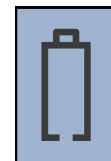

Fig.1A
- Remember, only charge your Indicator when the battery symbol is shown on the display, (Fig.1A) see page 13.
1. Turn on your tool, check the upper left of the display to see if the battery symbol is showing. If the battery symbol is showing (Fig.1A) then go to the “Rechargeable Battery Care and Maintenance” section, on page 13. If there is no battery symbol visible then the battery is charged.